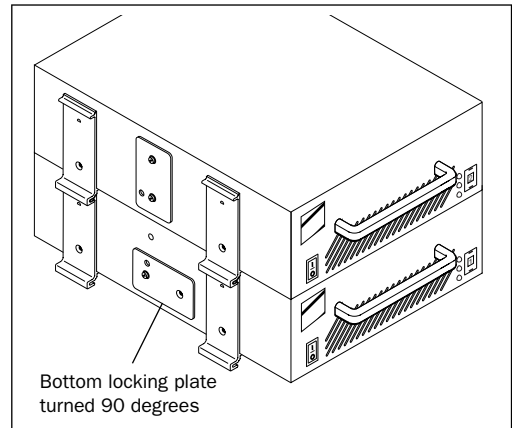

Figure 6. Bottom Drive Locking Plate
- 4 Swing the locking plate on each side of the bottom drive 90 degrees (to a horizontal position) and tighten the locking plate screw (see Figure 6).